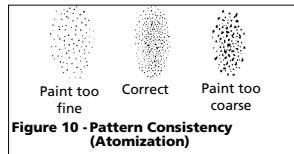

Figure 10 - Pattern Consistency (Atomization)
4. Trigger a short burst while turning fluid control knob counterclockwise. Observe the spray pattern on the target and adjust the fluid control knob until the desired pattern (atomization) is obtained (See Figure 10).
5. If the atomization is too coarse, reduce the tank pressure with the tank regulator. Trigger a short burst or open relief valve to relieve the pressure, then increase pressure slowly to obtain proper pattern consistency (See Figure 10).